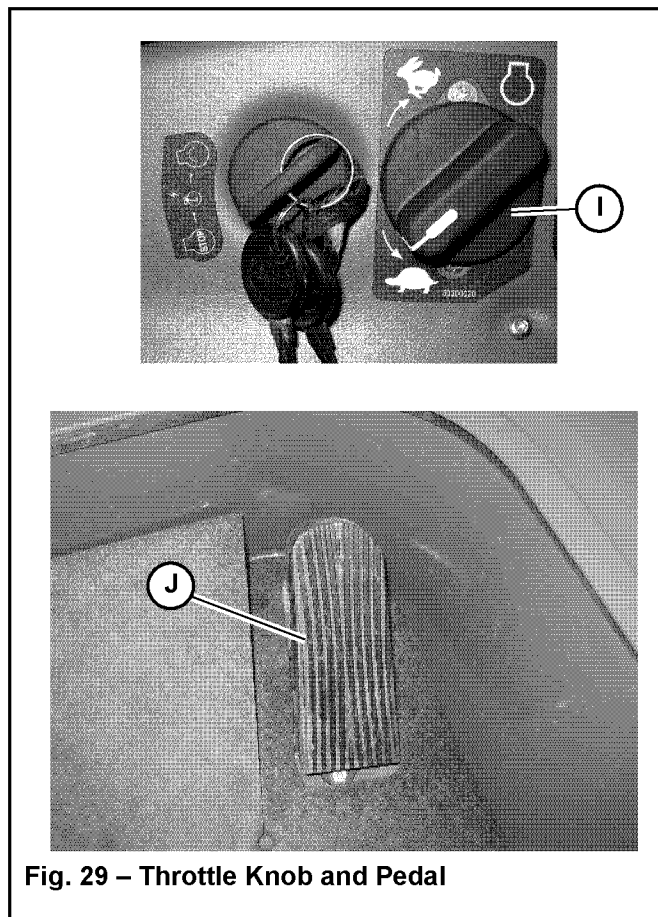

Fig. 29 – Throttle Knob and Pedal
Engine throttle is controlled with both a knob (I, Fig 29) and a pedal (J).